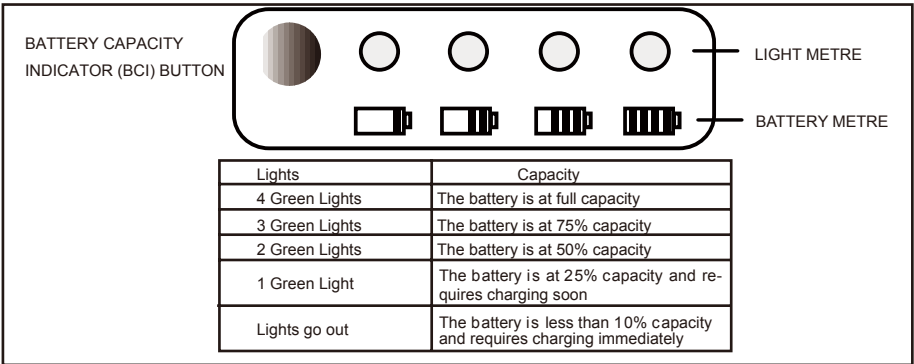

**Fig. 11**
## **CUTTING TIPS** (See *Figure 11*.)
- The trimmer cuts when passing the unit from right to left. This will avoid throwing debris at the operator. Avoid cutting in the dangerous area shown in figure 11.